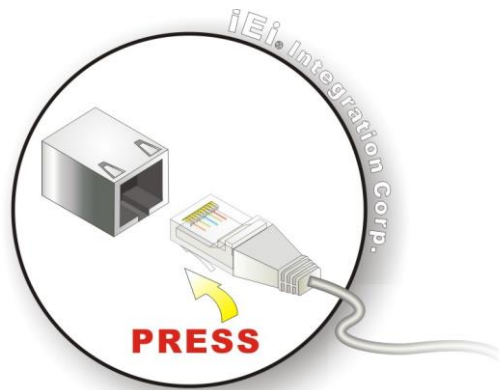

Figure 3-11: LAN Connection
Step 2: **Align the connectors.** Align the RJ-45 connector on the LAN cable with one of the RJ-45 connectors on the TANK-880-Q370 Series. See **Figure 3-11**.